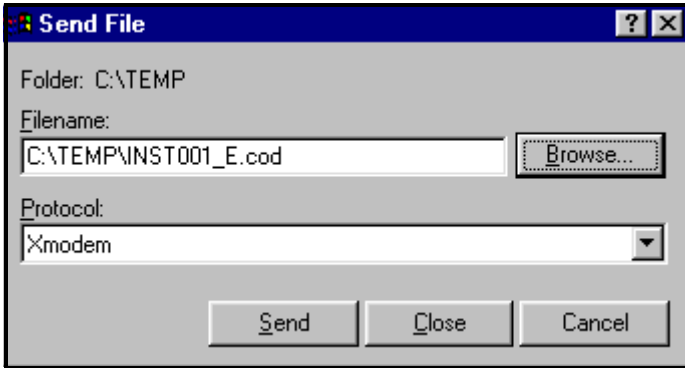

Figure 8-31: The Send File Window in the Transfer Menu
1. In the Hyperterminal window, pull down the Transfer menu and click *Send File*. A window opens similar to Figure 8-31 below.